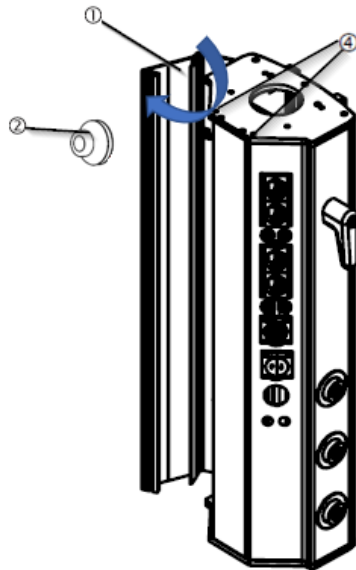

Fig. 6 Opening the sides of a service head
- Unscrew the 4 M6 x 16 countersunk screws ② DIN 935 using an Allen tool as shown in figure 6.
- Remove the polycarbonate cover ① and store it in a safe place. The lighting module is visible.